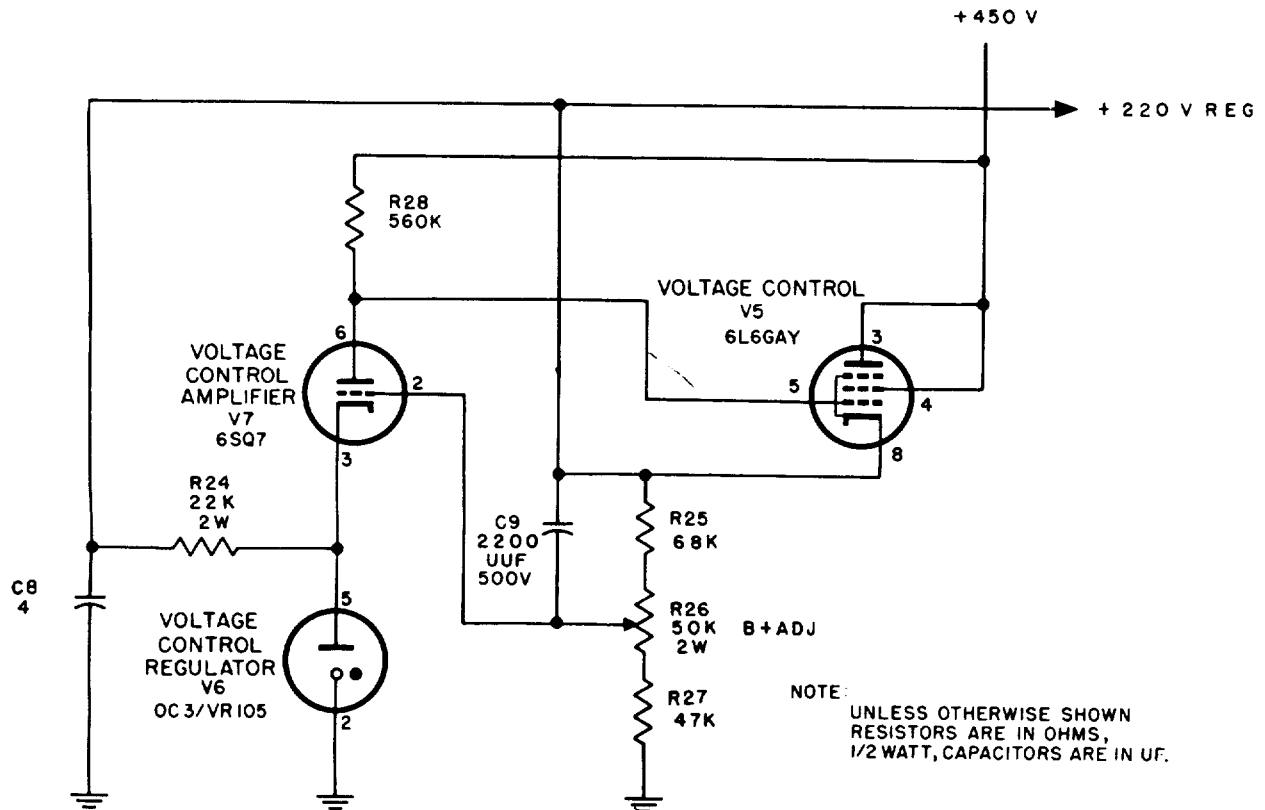

Figure 5-18. Decibel Meter ME-22(*)/PCM, regulated +220-volt power supply circuit, schematic diagram.
b. Regulated +220-Volt Power Supply. The regulated +220-volt power supply (fig. 5-18) consists of voltage control tube V5, voltage control amplifier tube V7, voltage control regulator tube V6, and associated circuit elements. This circuit provides a regulated output of